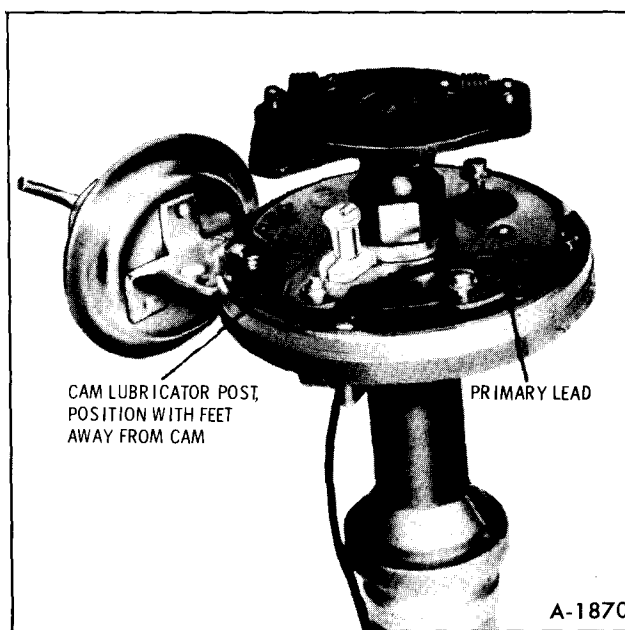

Figure 38—Cam Lubrication
3. The cam lubricator is mounted on breaker plate with feet away from cam. Figure 38. Apply a thin film of lubricant 1948792 or equivalent to cam, not the wick.